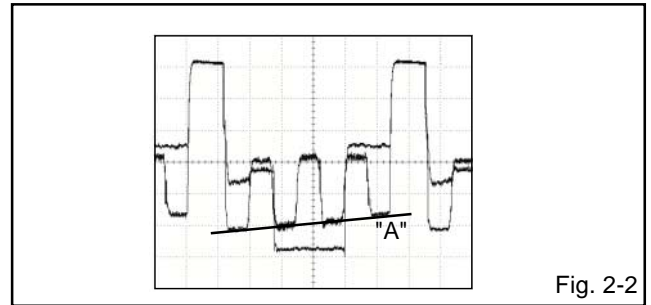

Fig. 2-2
4. Press the VOL. UP/DOWN button on the remote control until the section "A" becomes as straight line. (Refer to **Fig. 2-2**)